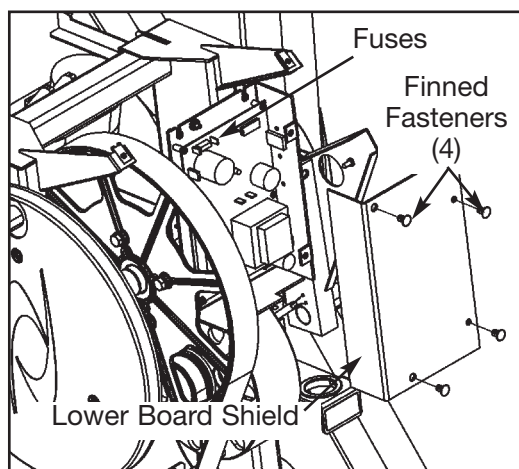

Figure 26
- B. Pull out on the lower board shield (it will snap out). See Figure 26.
- C. Locate the fuses in the upper left hand corner of the control board. See Figure 26.